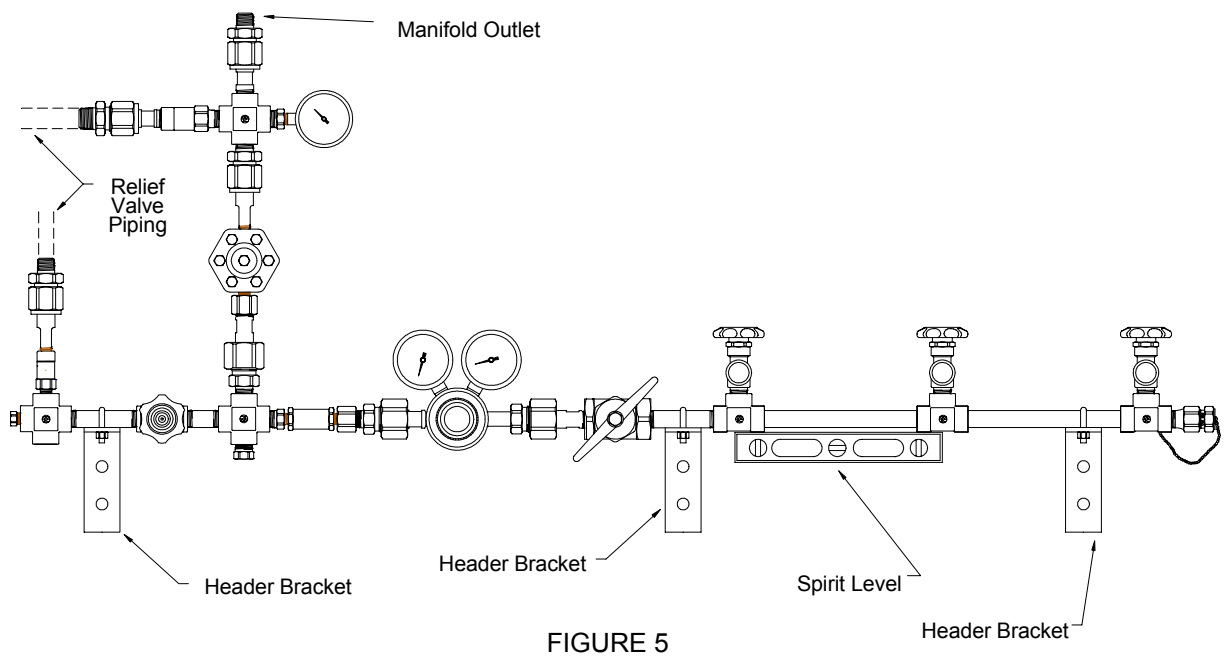

FIGURE 5
9. Mount the high pressure reserve manifold by placing the header on bracket. Fit the U-bolt over the header pipe and tighten the mounting nuts. (Figure 5)
10. Using a level, mark the placement of any additional mounting while keeping the header on a horizontal plane. (Figure 5)
1. A 1/2" NPT male union is supplied with the control and is located at the outlet of the manifold. Connect this union to the pipeline system. The union provided permits removal of the manifold for service. (Figure 5)